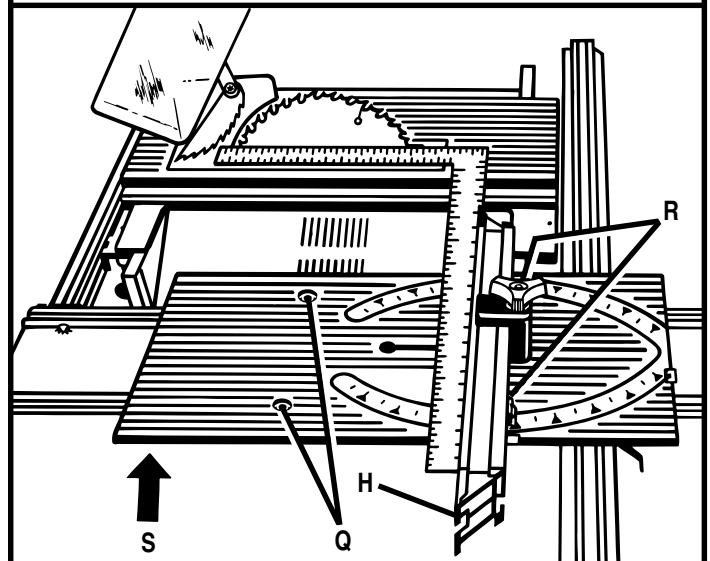

Figure 55: Miter Fence Alignment
5. Push left rear of miter table snugly against miter base as shown by the arrow (S) in figure 55 and secure.